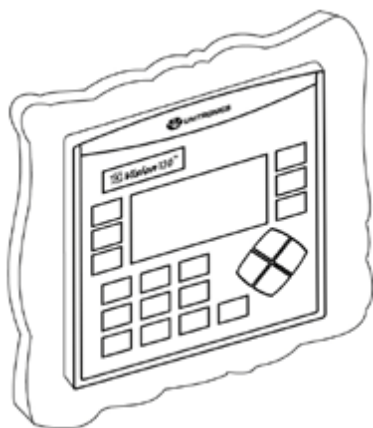

Figure B-9. Remote Relay Panel Mounted
5. When properly mounted, the remote relay module is squarely situated in the panel cutout as shown in Figure B-9.